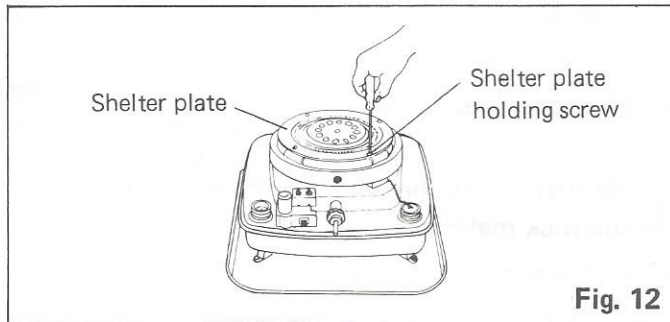

Fig. 12
3. Loosen the four shelter plate holding screws and remove the shelter plate from the cylinder base. (Fig. 12)